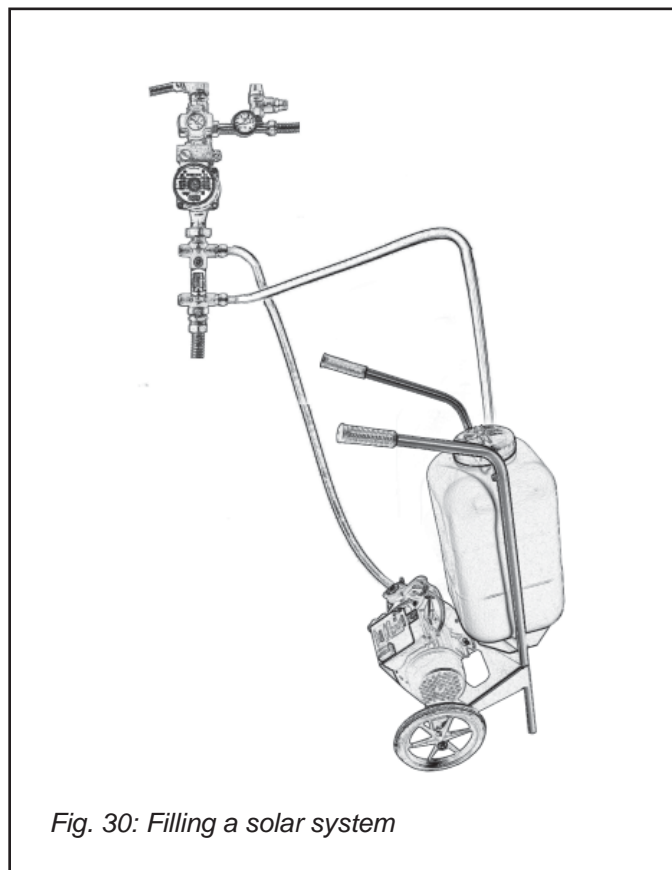

Fig. 30: Filling a solar system
- in order to fill the system, use a filling device with a reservoir for solar liquid and a filling pump (see Fig. 30)